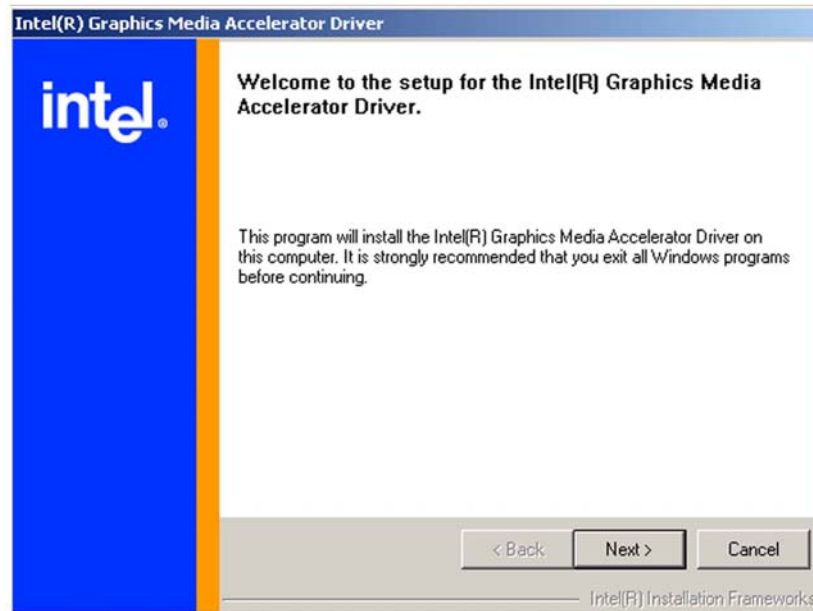

Figure 6-8: VGA Driver Installation Welcome Screen
Step 5: A Welcome screen shown in Figure 6-8 appears. Click **NEXT** to continue the installation.